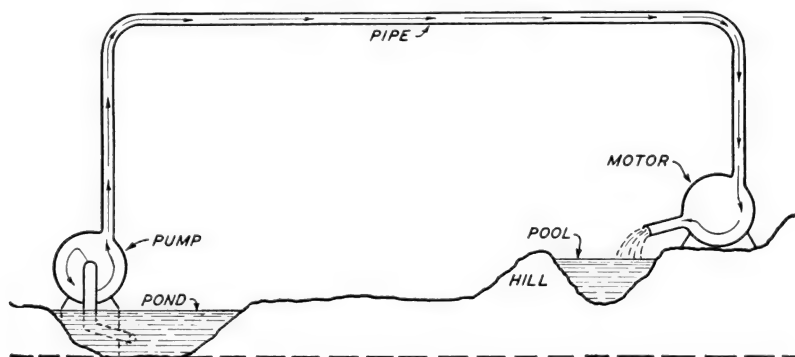

Fig. 25. Flow of Water through a Pipe System
**Flow of Magnetic Lines.** The action of a magnet and magnetic field may be easier understood if they are compared with a water system and thought of as flowing through space. In Fig. 25 the pump forces the water up and through the pipe to the water motor where the water is discharged into the pool. As soon as the pool fills up, the water runs down the hill back to the pond, ready for another trip around the route or circuit.